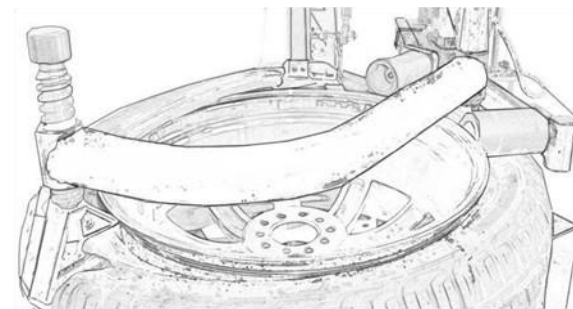

**Fig 22**
- a) Flick the switch valve to return the automatic mount/demount head to its resting position (**Fig 22**). Put the tire on the rim slightly tilted, and place the bead's another edge above the back of the mount/demount head and the other below the front of the mount/demount head. Press the tire with your hand or the assist arm's tire pressing roller and rotate the turntable to mount the lower bead.